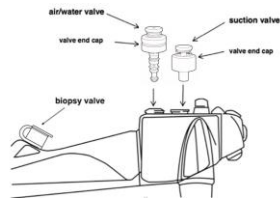

Figure 1
4. Insert the suction valve into suction cylinder of a Fujifilm® endoscope (see Figure 1 below).
9. Insert the air/water valve into the air/water cylinder of a Fujifilm® endoscope (see Figure 1 below).
- Securely place the biopsy valve onto the biopsy/suction channel opening of a Fujifilm® endoscope (See Figure 1).